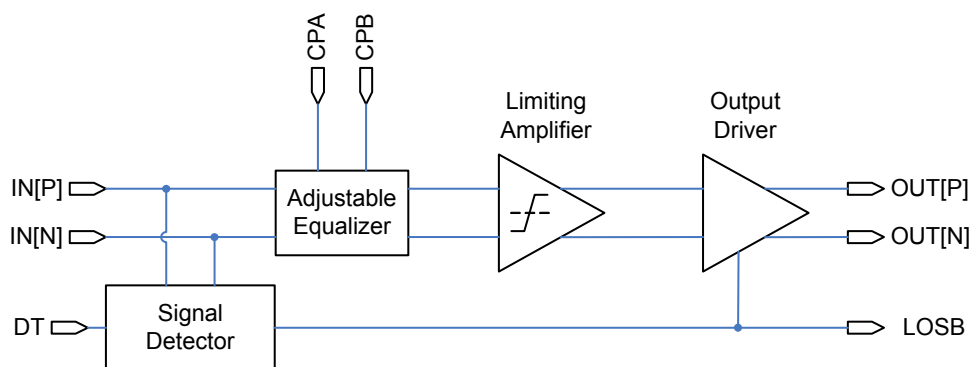

FIGURE 4. FUNCTIONAL BLOCK DIAGRAM OF THE ISL36111
The **ISL36111** is an advanced lane-extender for high-speed interconnects. A functional diagram of **ISL36111** is shown in Figure 4. In addition to a robust equalization filter to compensate for channel loss and restore signal fidelity, the **ISL36111** contains unique integrated features to preserve special signaling protocols typically broken by other equalizers. The signal detect function is used to mute the channel output when the input signal falls below the level determined by the Detection Threshold (DT) pin voltage. This function is intended to preserve periods of line silence (“DC idle”). Furthermore, the output of the Signal Detect/DT comparator is used as a loss of signal (LOSB) indicator to indicate the absence of a received signal.
As illustrated in Figure 4, the core of the high-speed signal path in the ISL36111 is a sophisticated equalizer followed by a limiting amplifier. The equalizer compensates for skin loss, dielectric loss, and impedance discontinuities in the transmission channel. The equalizer is followed by a limiting amplification stage that provides a clean output signal with full amplitude swing and fast rise-fall times for reliable signal decoding in a subsequent receiver.